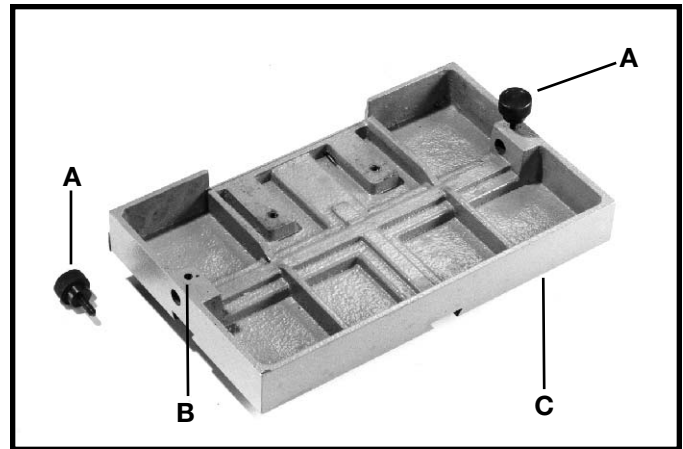

Fig. 6
1. Thread two lock knobs (A) Fig. 6, into holes (B) at the underside of table (C).